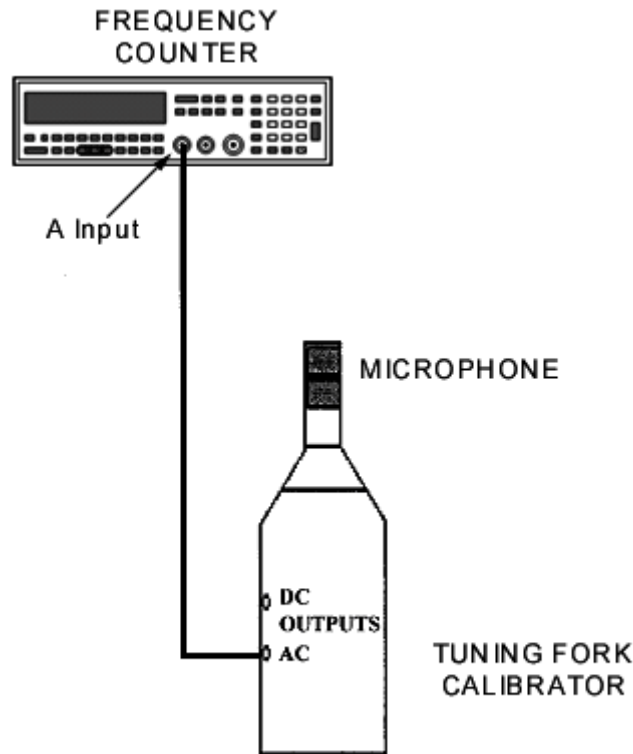

Figure 1. Tuning fork calibrator equipment.
a. Connect equipment as shown in figure 1.
b. Position tuning fork calibrator switches as listed in (1) through (4) below.
- (1) Select a tuning fork.
- (2) Strike tuning fork sharply on the edge of wooden (or plastic) bench (or table) and hold approximately $\frac{1}{4}$ inch over microphone (fig. 1) while observing frequency counter indication. Record frequency counter indication.
- (3) Repeat (2) above several times (at least 5) and average the recorded indications. The average reading is the measured frequency of the tuning fork.
- (4) Repeat technique of (2) and (3) above for each tuning fork.